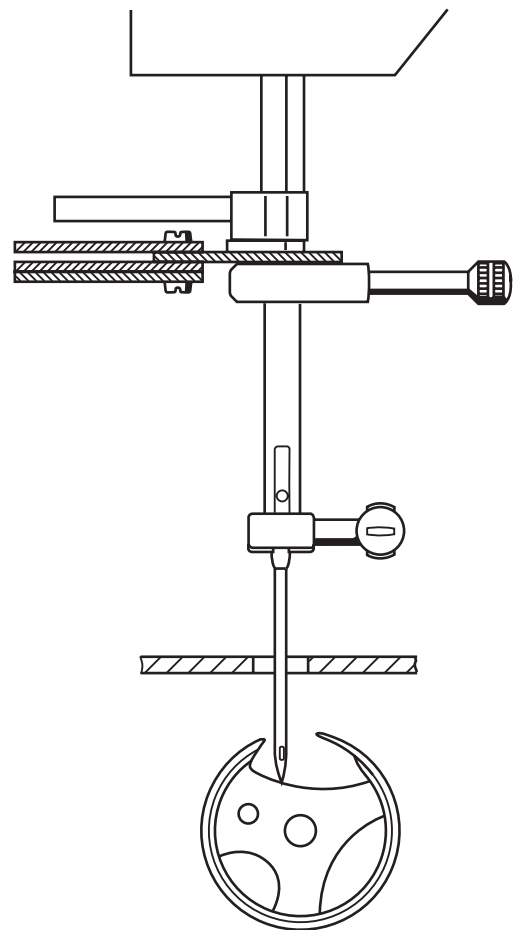

Fig. 34
- Bring the needle bar to its lowest position by turning the handwheel (fig. 34).